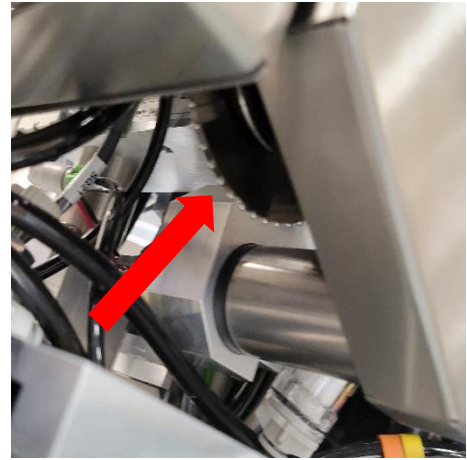

Figure 5
18. When tape is under the sealing camera use the sprocket underneath the carrier tape track to advance the carrier tape through as shown in Figure 5.